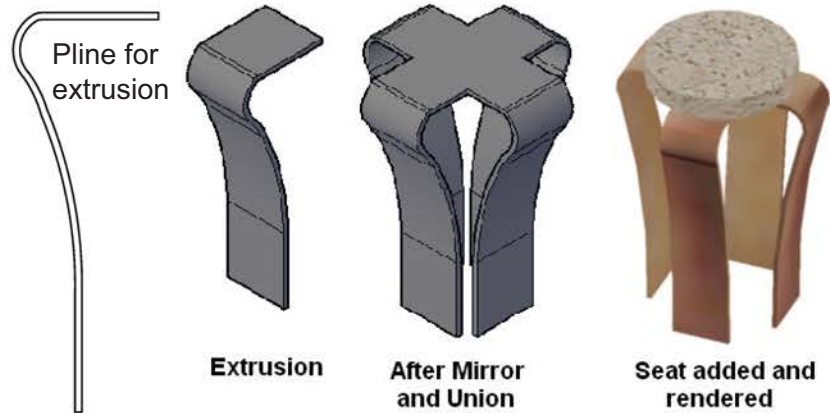

Fig. 16.39 Stages in constructing a stool
5. Add a cylindrical cushion and render (Fig. 16.39).